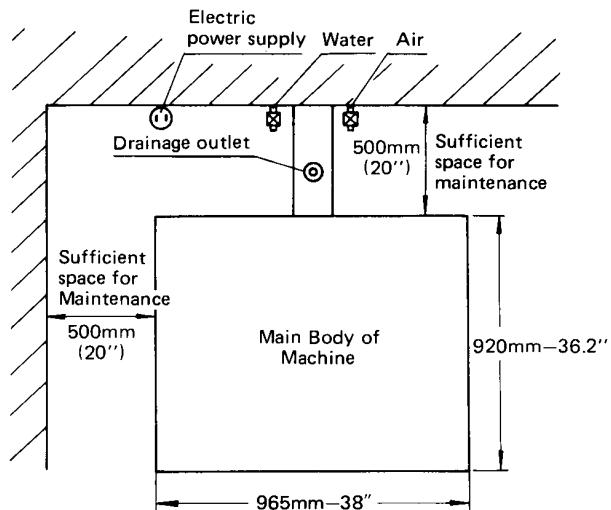

Fig. A-1
- (1) When installing the dicing saw, full consideration should be given to the provision of levelness.
- (2) Piping hoses should be connected after removing all dirt from the indise.
- (3) After installation has been completed, check that all cords and hoses are firmly clamped in place.
- (4) The drainage outlet should be placed beneath the main unit. (See  mark in Fig. A-1.)
- (5) Piping joints should always be secured by means of the hose clamps provided.
- (6) Always use dry air (dew point less than -45° -5°F) passed through a filter (0.003PPM wt/wt) or nitrogen gas (N₂) as the air source. (An optional refrigerator-type air drier is available.)
- (7) Always connect the ground to an anchor ground. Set the resistance at the point to grounding (class 3 ground) to 100 ohm or less.
- (8) The dicing saw should be installed on a bench of adequate strength. (The dicing saw weighs about 313kg - 689 lb.)
- (9) Remove all the shipping brackets provided for securing the X, Y and Z axes during transportation.